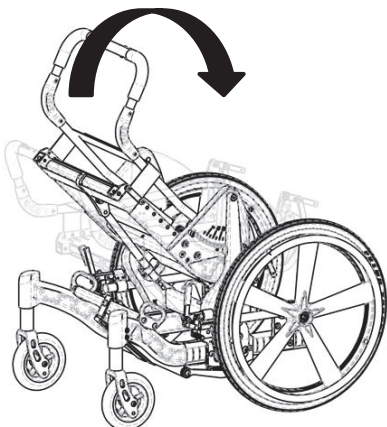

Figure 14.46: Take-Apart - Tilt
3. Unfold the front Velcro straps, typically located under the front edge of the seat cushion (Figure 14.46).